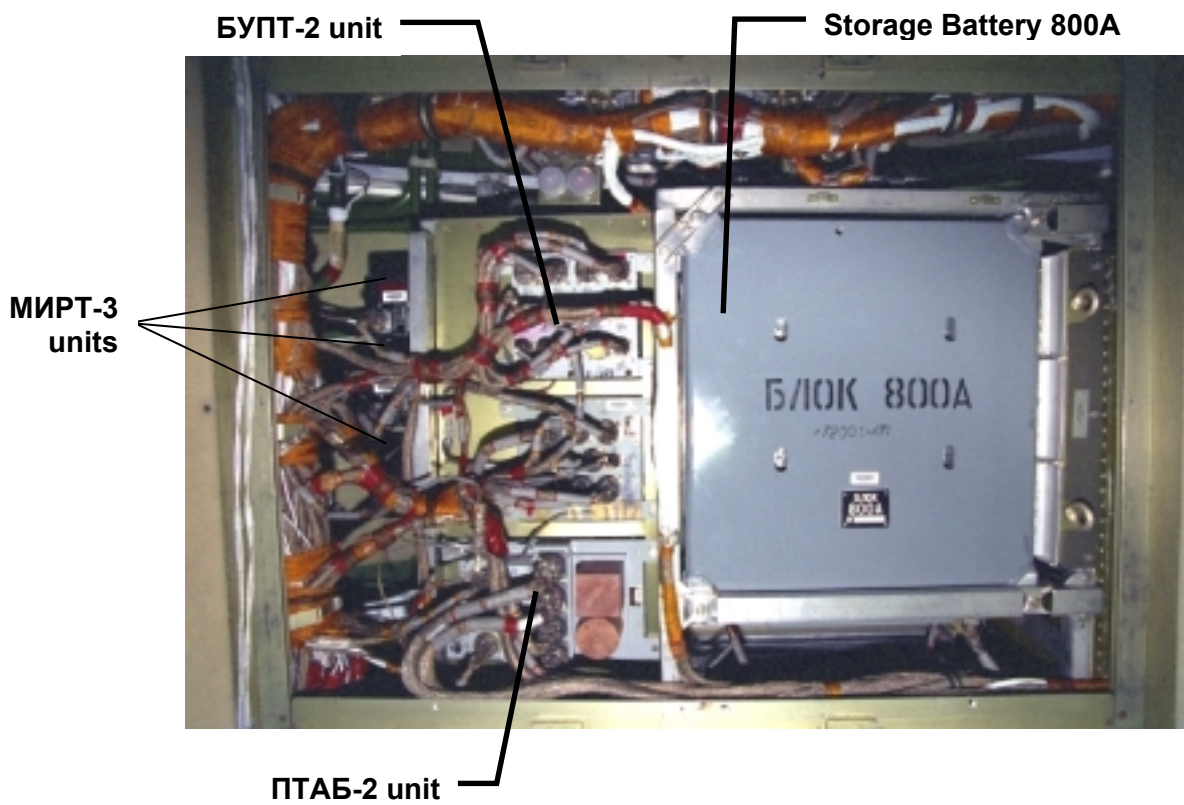

Figure 12-1. СЭС Units Location behind panel 103.
1. Open required panel (see Figure 12-1, Table 12.1-1)